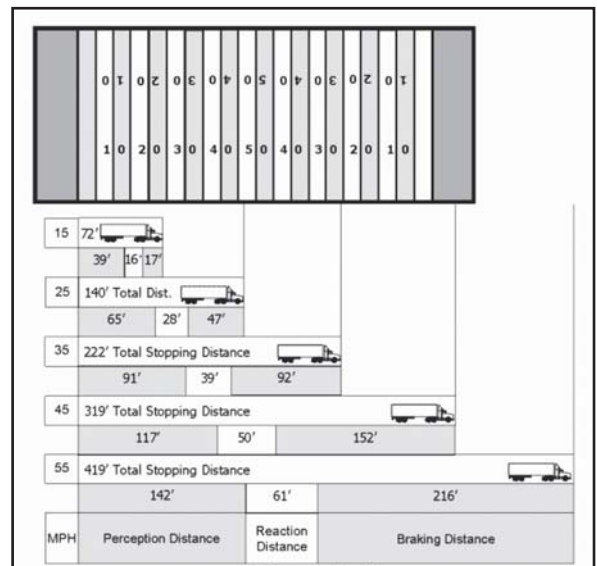

Figure 2.11
**Total stopping distance** — The total minimum distance your vehicle has traveled, in ideal conditions; with everything considered, including perception distance, reaction distance and braking distance, until you can bring your vehicle to a complete stop. At 55 mph, your vehicle will travel a minimum of 419 feet. (See Figure 2.11.)